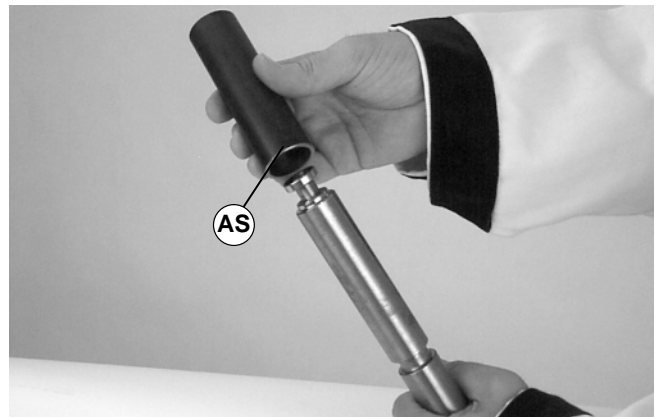

Figure 29
3. Slide the sleeve of tool (part # 450282) (AS of Figure 29) over bearing.